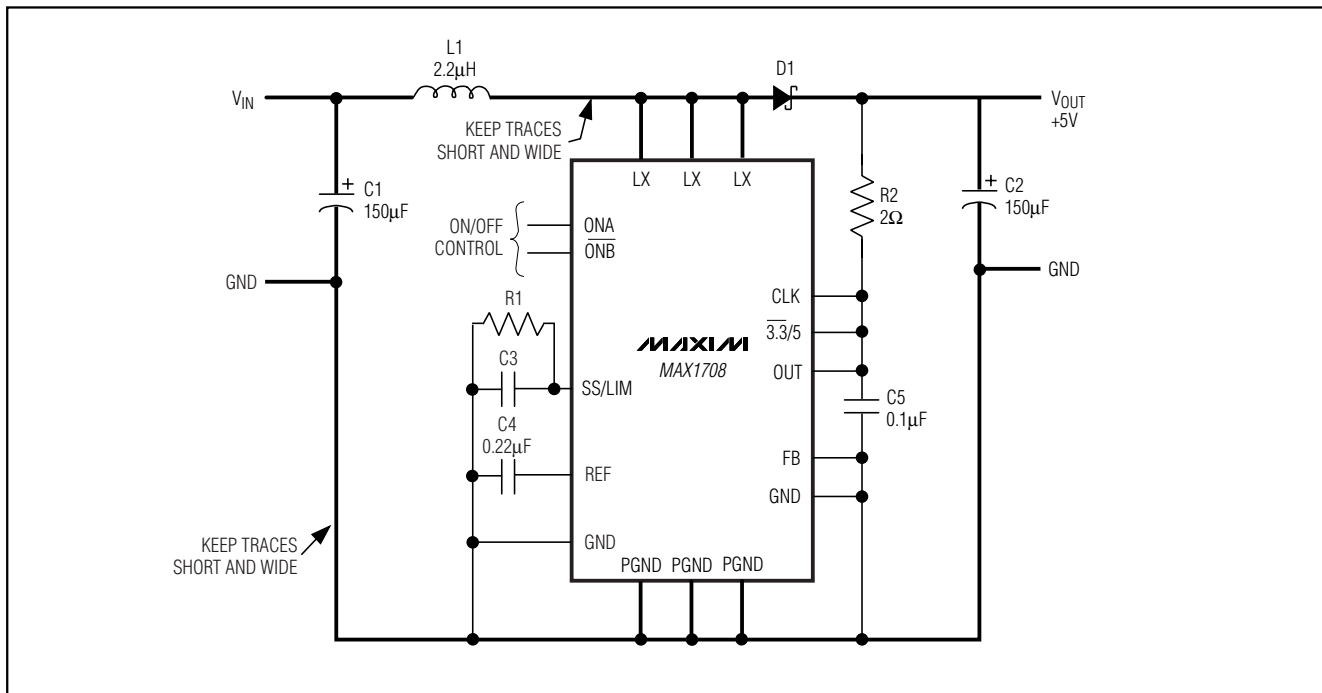
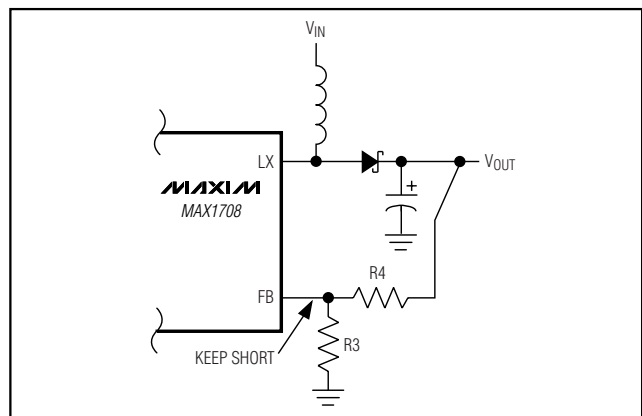

Figure 1. Standard Operating Circuit
Figure 4. Adjustable Output Voltage
**Note 4:** Startup is tested with Figure 1's circuit. Output current is measured when both the input and output voltages are applied.
(Circuit of Figure 1,  $T_A = +25^\circ\text{C}$ , unless otherwise noted.)
The MAX1708 features Dual Mode™ operation. When FB is connected to ground, the MAX1708 generates a fixed output voltage of either +3.3V or +5V, depending on the logic applied to the 3.3/5 input (Figure 1). The output can be configured for other voltages, using two external resistors as shown in Figure 4. To set the output voltage externally, choose an R3 value that is large enough to minimize load at the output but small enough to minimize errors due to leakage and the time constant to FB. A value of R4 ≤ 50kΩ is required
The soft-start pin allows the soft-start time to be adjusted by connecting a capacitor from SS/LIM to GND. Select capacitor C3 (see Figure 1):
To improve efficiency or reduce inductor size at reduced load currents, the current limit can be reduced from its nominal value (see *Electrical Characteristics*). A resistor (R1 in Figure 1) between SS/LIM and ground reduces the current limit as follows:
- ILIM = minimum value of switch current limit from *Electrical Characteristics* or set by R1 of Figure 1.
The output filter capacitor ESR must be kept under 30m $\Omega$  for stable operation. Polymer capacitors of 150 $\mu$ F (Panasonic EEFUE0J151R) typically exhibit 10m $\Omega$  of ESR. This translates to approximately 35mV of output ripple at 3.5A switch current. Bypass the MAX1708 IC supply input (OUT) with a 0.1 $\mu$ F ceramic capacitor to GND and a 2 $\Omega$  series resistor (R2, as shown in Figure 1).
sensitive analog grounds by using a star ground configuration. Connect PGND, the input bypass capacitor ground lead, and the output filter capacitor ground lead to a single point (star ground configuration). In addition, minimize trace lengths to reduce stray capacitance and trace resistance, especially from the LX pins to the catch diode (D1) and output capacitor (C2) to PGND pins. If an external resistor-divider is used to set the output voltage (Figure 4), the trace from FB to the resistors must be extremely short and must be shielded from switching signals, such as CLK or LX. To optimize package power dissipation and minimize device heating under heavy loads, expand PC trace area connected to the three PGND pins as much as the layout can allow. This is best